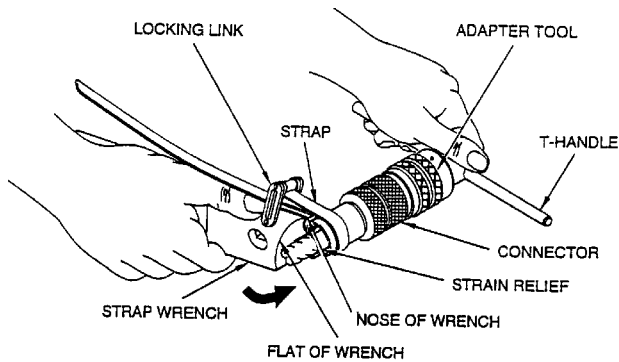

Figure 34. Accessory Removal
- a. Hold connector stationary with adapter tool and T-Handle. Install strap wrench around strain relief and apply counter clockwise force to loosen strain relief (Figure 34).